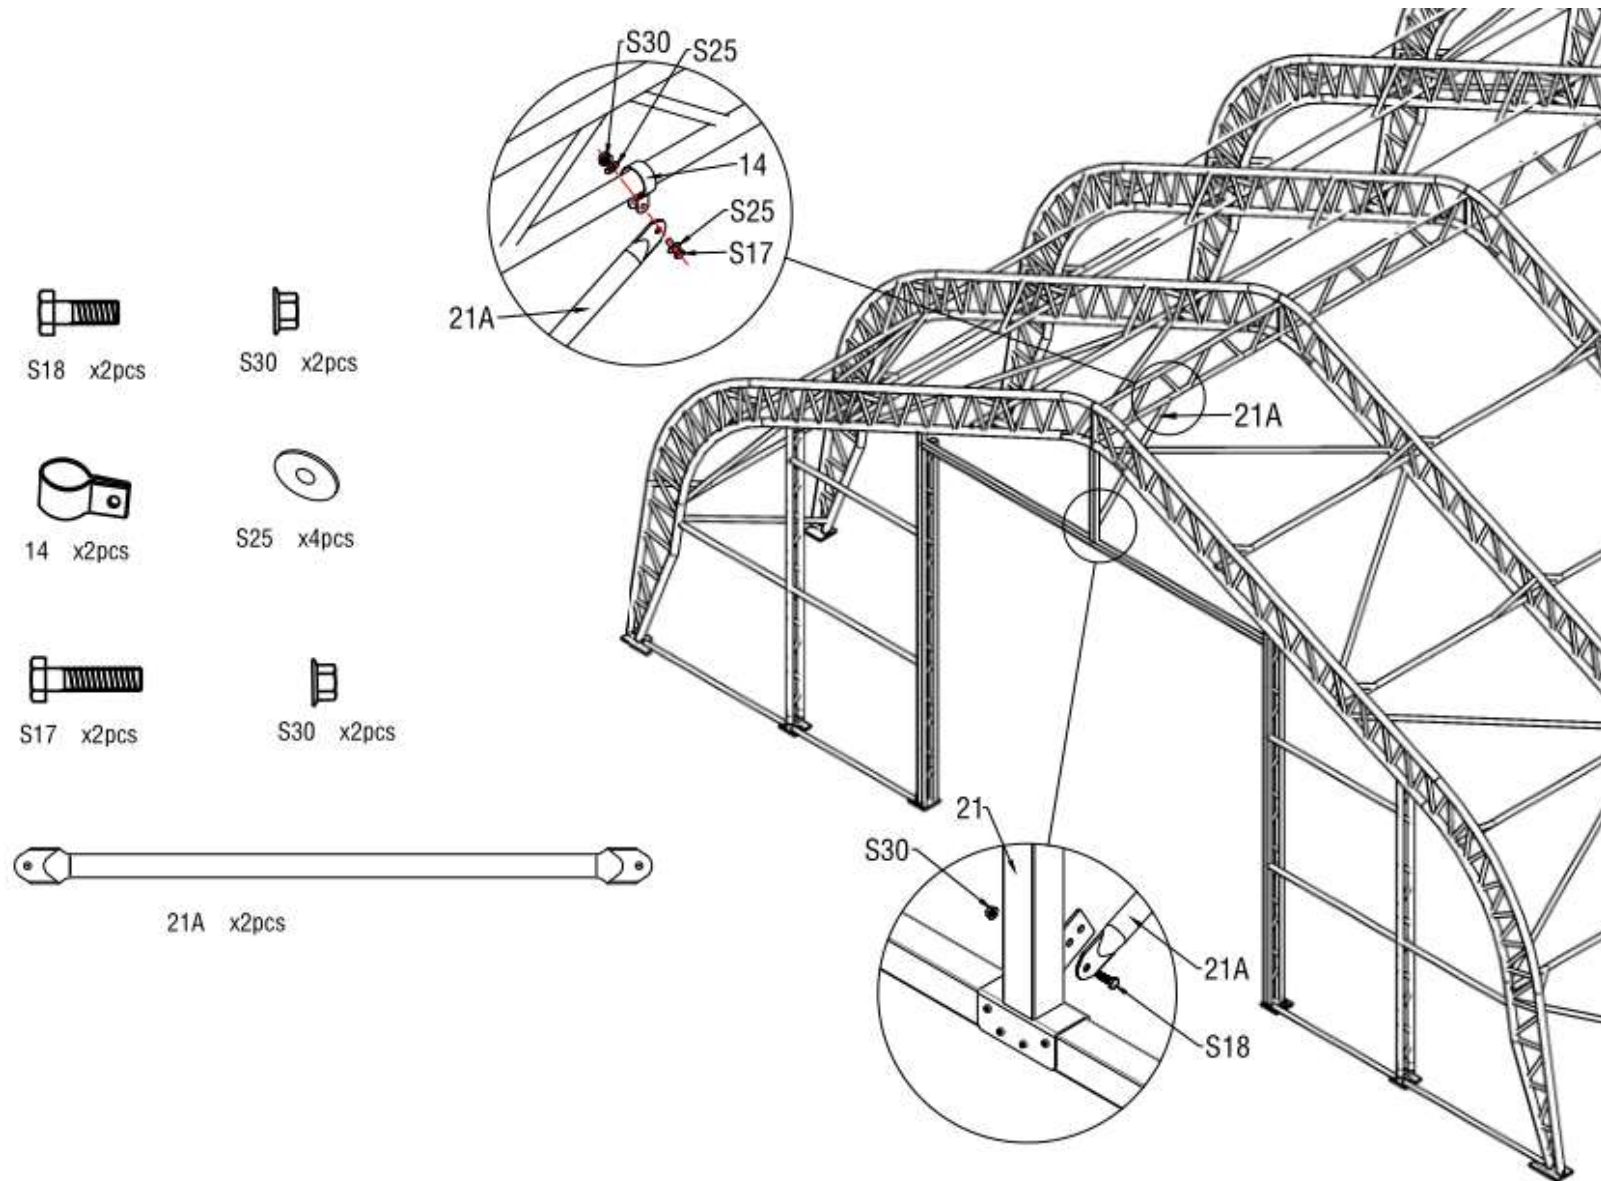

Figure 15
2. Fix clips (No. 14) on Double Trussed Purlins (No. 9) and install the Diagonal Support Tube For door beam (No. 21A) on clips as figure 15 shows. Please connect the Diagonal Support Tube For door beam (No. 21A) between door frame and Double Trussed Purlins (No. 9) by using Screw M10x30 (No. S18) and Screw M10x50 (No. S17) with plain washer M10 (No. S25).